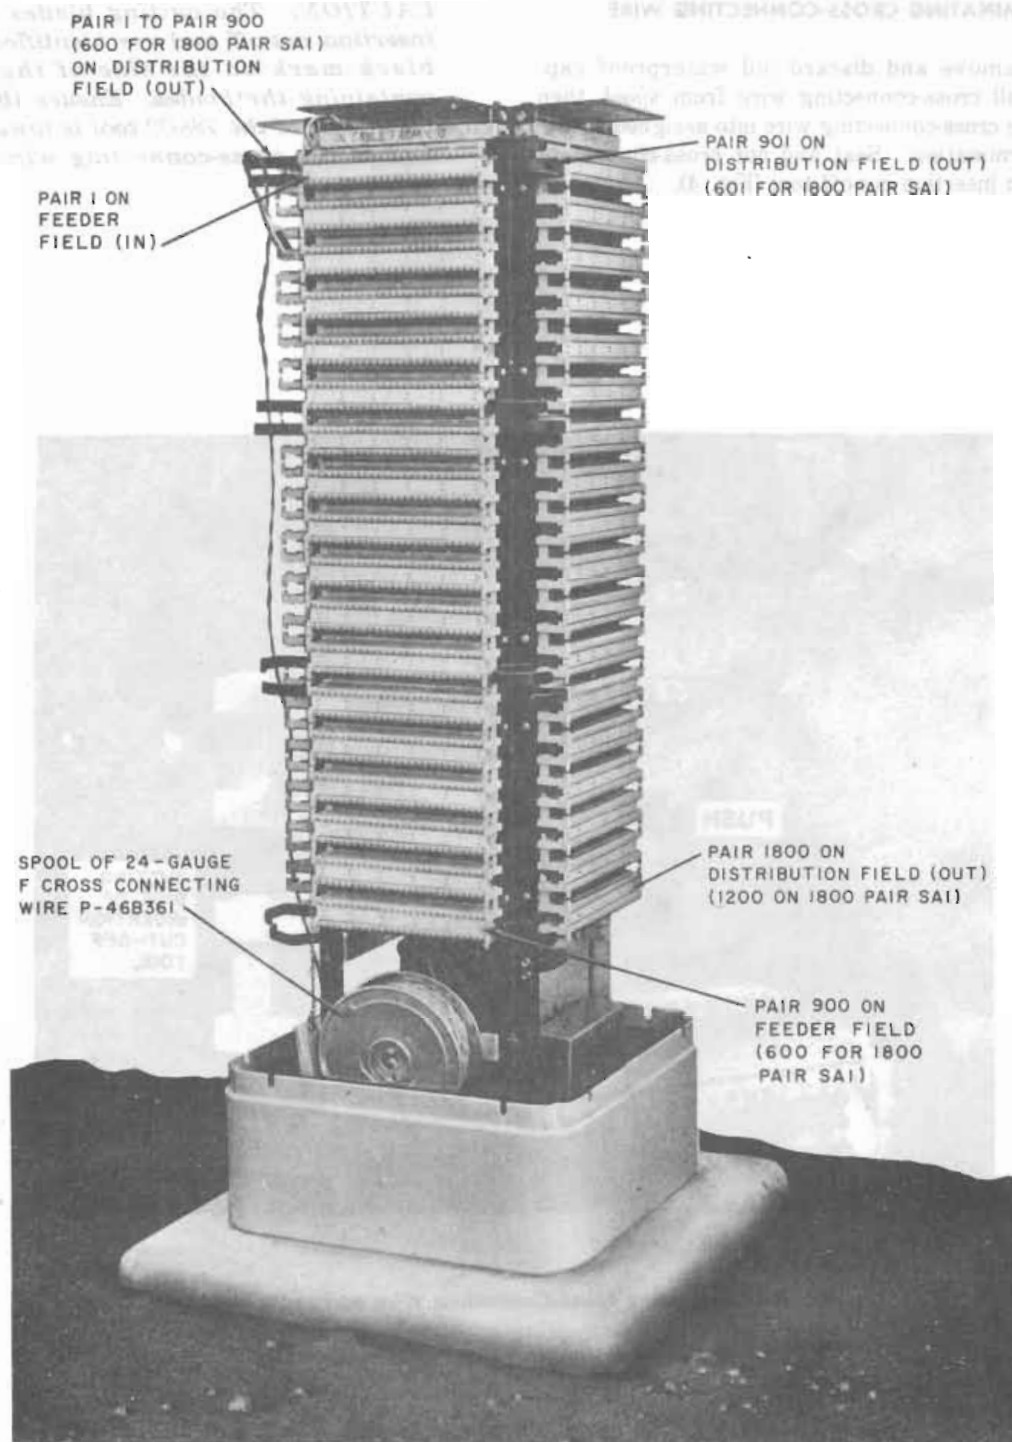
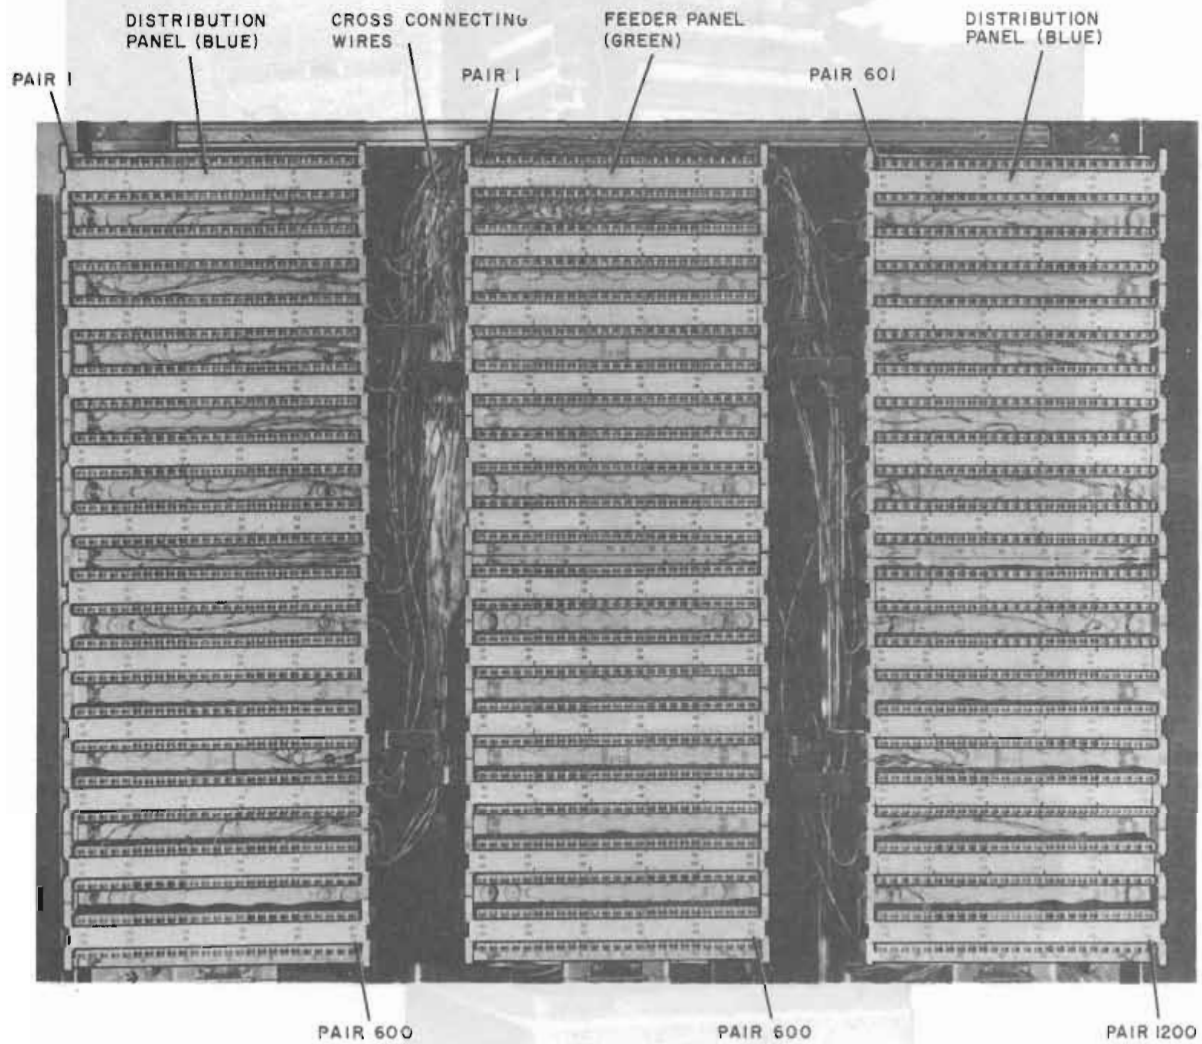

Fig. 3—Marked Serving Area Interface
Fig. 10—B Aerial Interface AT-8685 with Several Cross-Connecting Wire Runs
- (b) On the feeder (center) panel the binding post numbers are marked on the designation strips as shown in Fig. 3 or Fig. 10.
- (c) On the distribution (side) panels the binding post numbers are marked on the designation strips starting with pair 1 located on the blue field to the left of the green field and continuing as shown in Fig. 3 or Fig. 10.